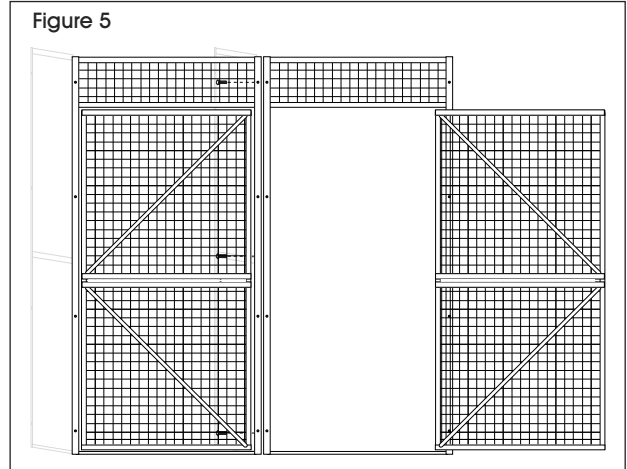

Figure 5
1. Bolt add-on unit door frame to starter unit door frame by inserting three long hex head bolts through open holes in one door frame and into threaded hole in other door frame. (See Figure 5)